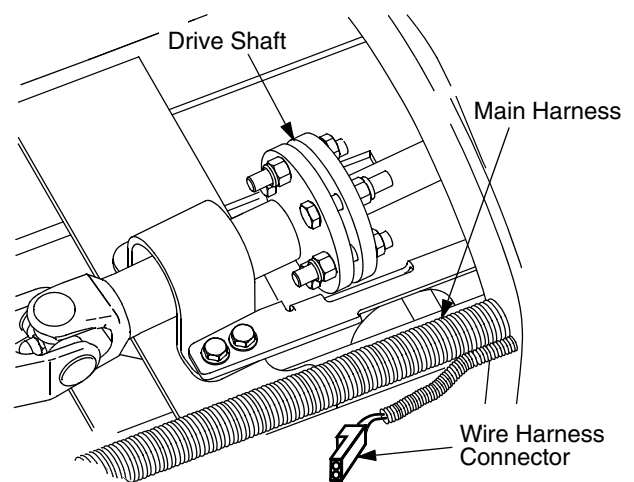

Figure 9
- Locate the unused two wire connector of the main wire harness along the right side of the frame (See Figure 9). Plug the two wires from the magnet into the wire harness connector.
- Use the cable tie (Ref.5) to secure the wire harness lead and magnet wires to the main harness, away from the drive shaft. Refer to Figure 9.